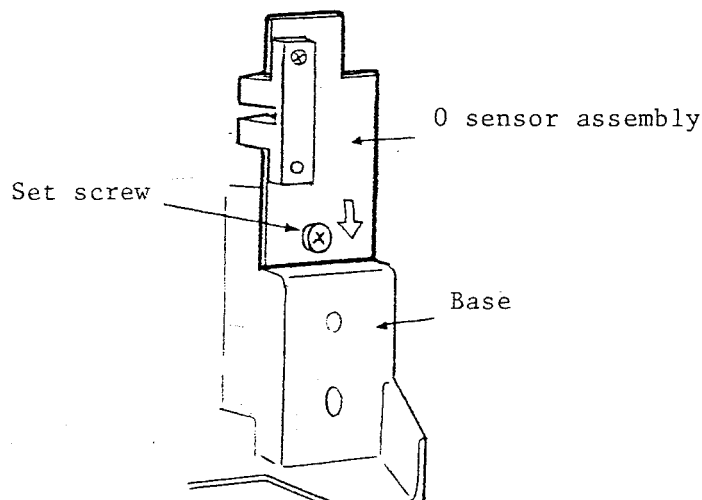

Fig. 4.10 0 Sensor Assembly
- (a) Attach the 0 sensor assembly. Press the plate in the arrowed direction (Fig. 4.10) and secure it temporarily.